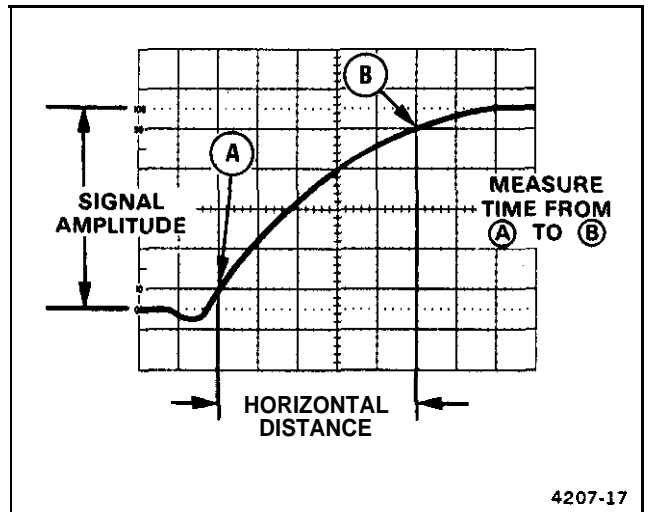

Figure 4-7. Rise time.
Rise-time measurements use the same methods as time duration, except that the measurements are made between the 10% and 90% points on the leading edge of the waveform (see Figure 4-7). Fall time is measured between the 90% and 10% points on the trailing edge of the waveform.
4. Adjust vertical positioning so that the zero reference of the waveform touches the 0% graticule line and the top of the waveform touches the 100% graticule line (see Figure 4-7).
6. Horizontally position the display so the 10% point on the waveform intersects the second vertical graticule line (see Figure 4-7, Point A).
EXAMPLE: The horizontal distance between the 10% and 90% points is 5 divisions (see Figure 4-7), and the A SEC/DIV switch is set to 1 μs . The X10 magnifier knob is pushed in (IX magnification).